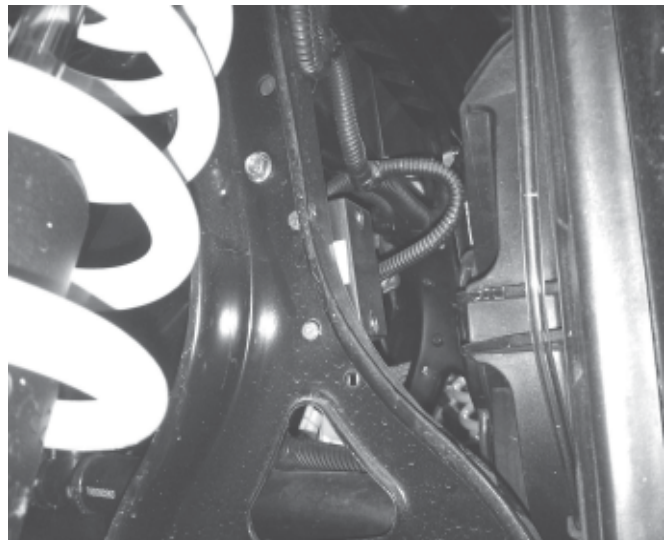

Figure 11
12. Place the contactor on the front right frame behind the front spring and shock as shown in figures 11 and 12. There are holes in the frame corresponding to the feet on the contactor. This location will work for contactor in the 4000lb winch as well as the contactor that comes with the 2500lb and 3000lb winch.